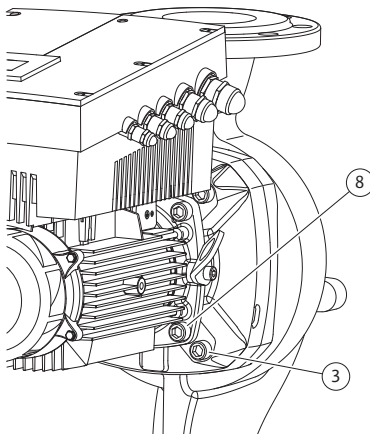

Fig. 50: Optional fixation of the motor impeller unit
11. Loosen and remove the screws (Fig. 7, Item 3). Depending on the pump type, the outer screws (Fig. 50, Item 3) are to be taken. The motor impeller unit (see Fig. 13) remains securely in the pump housing after the removal of the screws; there is no danger of tipping even in the horizontal position of the motor shaft.
16. Depending on the pump type, loosen the screws (Fig. 7, Item 10) or alternatively, the screws (Fig. 50, Item 8).
22. Carefully push the lantern over the shaft and position it in the old position or another desired angular position to the motor flange. Observe the permitted installation positions of the components when doing this (see chapter 7.1 "Permitted installations position and change of the arrangement of components before the installation" on page 83). Attach the lantern with the screws (Fig. 7, Item 10) **or** – for the pump/lantern types in accordance with (Fig. 50) – with the screws (Fig. 50, Item 8) at the motor flange.